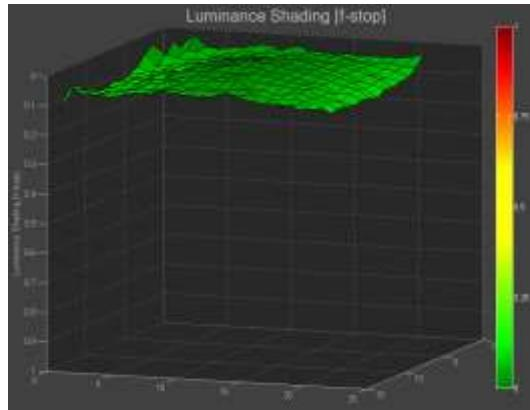
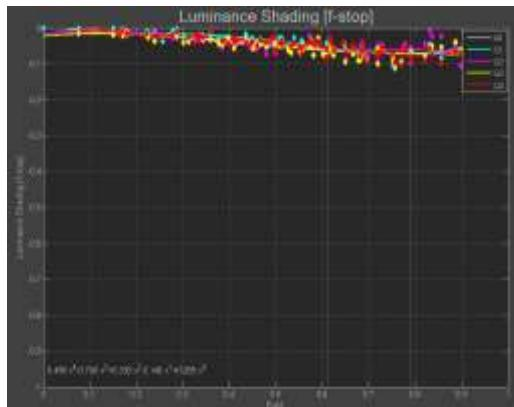

Figure 65. Luminance [f-stop] 3-D Image
Figure 66. Luminance [f-stop] Plot Image
1. If the Shading Test analysis produces f;^{at}-shaped 3-D image and data plot as shown in Figure 65 and Figure 66 (press **LUMINANCE [f-stop]** and **3-D** buttons) and (press **LUMINANCE [f-stop]** and **PLOT** buttons), Shading correction adjustment will most likely not be required in other analysis modules because the camera/lens combination produces an almost flat curve.